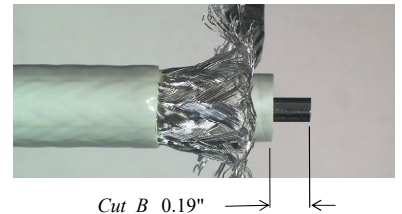

Figure 3
- 4) Perform a fit check of the cable contact on the cable center conductor to verify fit. If there are any issues that impede the fit of the contact, use a needlenose pliers to carefully "round" the conductor. Install center contact onto the cable center conductor, until contact is fully seated against the cable dielectric. Conductor should be visible in inspection hole. Solder the center contact onto the center conductor. Center contact must be soldered, not crimped (Fig 3).
- 5) Maintaining braid weave as much as possible, flair braids and unwrap helical inner shield all the way down, close to the jacket without twisting it. A needlenose pliers may be used to carefully grip and unwind the helical strip. *Use caution, the helical strip edges are sharp; a needlenose pliers may help avoid finger cuts.* The helical strip can be positioned straight along the inside of the flared braids. The dielectric must be exposed for the full strip length of Cut A (Fig 3).